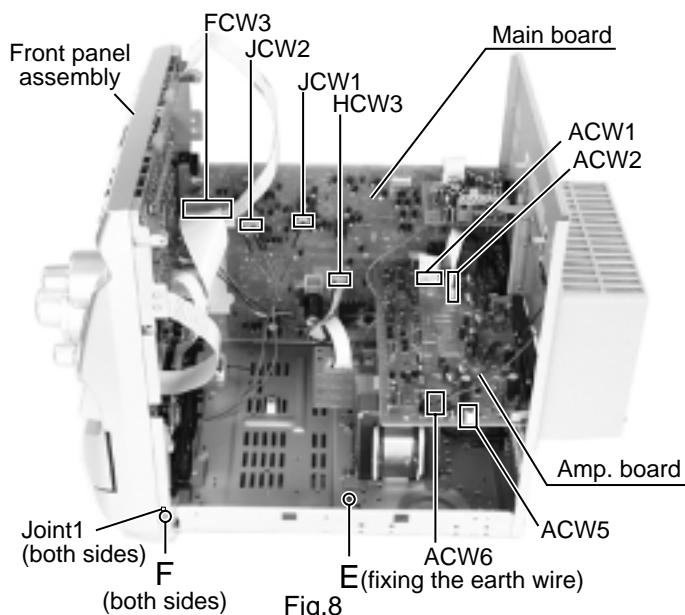

Fig.8
■ Removing the front panel assembly (See Fig.8 to 10)
(See Fig.8, 11 and 12)
(See Fig.8 and 12)